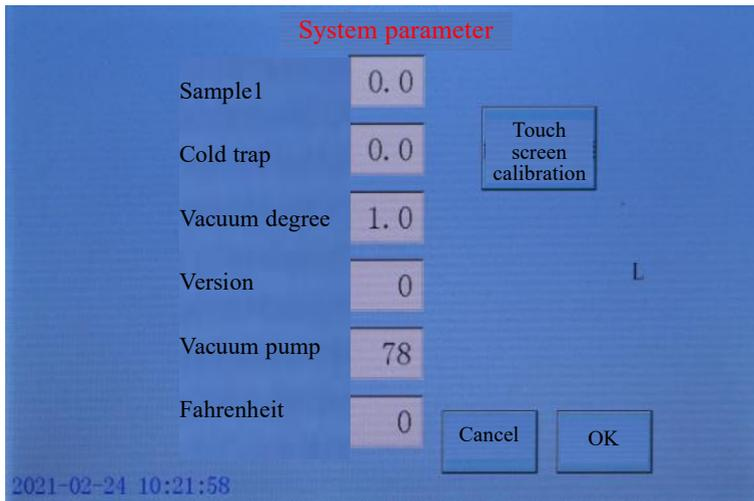
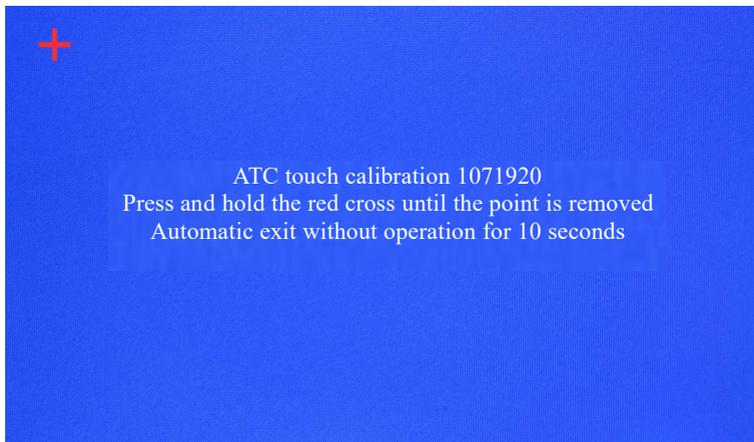
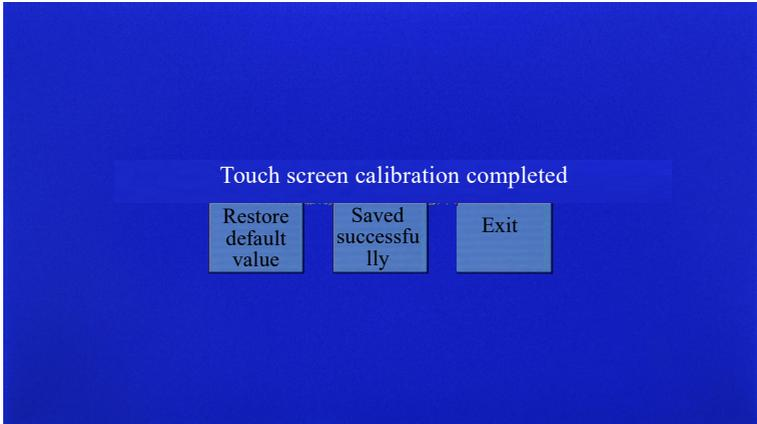

Fig. 8 System parameter interface
Fig. 9 System parameter interface
Fig. 10 Result saving interface
2) After entering the password 567765, the system parameter interface will be displayed as shown in Fig. 8.
3) Click the touch screen calibration button to display the calibration interface as shown in Fig. 9.
4) Press and hold the "+" symbol on the calibration interface as shown in Fig. 9 (You will hear a beep when you click on the symbol; if you hear a continuous beep, it means you have not clicked on the symbol), and the screen will flash after 5 seconds. At this time "+" symbol will appear in another place, repeat the above operation. After repeat the step above for 12 times, the result saving interface as shown in Fig. 10 will appear automatically.
5) Click the "Save results" button in the result saving interface as shown in Fig. 10. Click the Exit button, and the system parameter interface as shown in Fig. 8 will appear. Click the "OK" button in Fig. 8 to display the main interface.